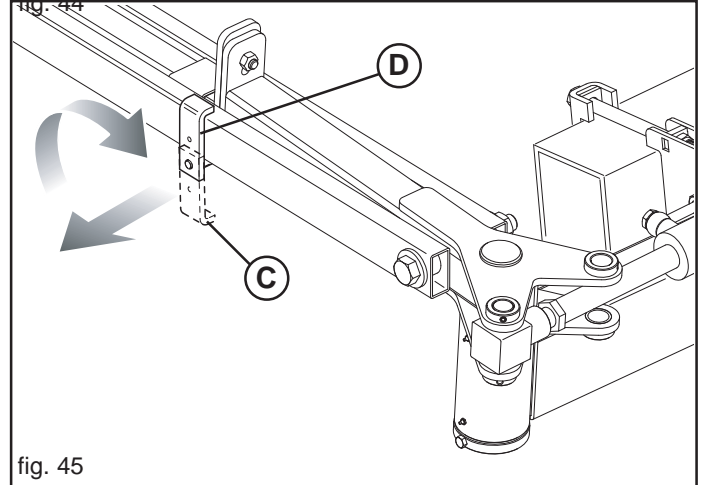

fig. 45
During operation, keep the stop block in position (C, Fig. 45), in order to enable the row marker arm to follow the movement of the ground. Before reclosing the equipment ready for transportation, lock the row marker arm by rotating the stop block to position (D).